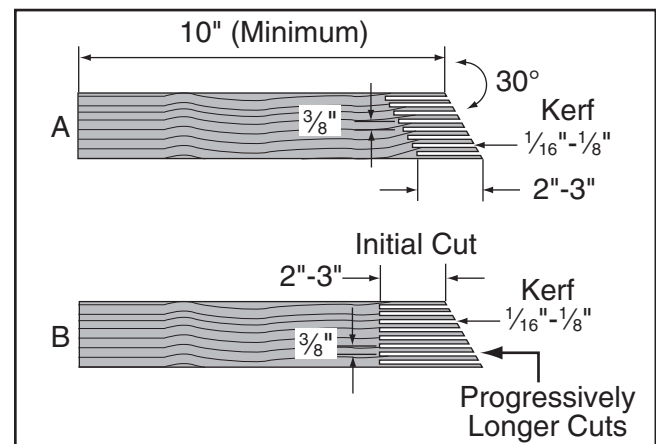

Figure 54. Patterns for featherboards (top view shown).
3. Make a series of end cuts with the grain $\frac{3}{8}$ "– $\frac{1}{4}$ " apart and 2"–3" long, as shown in **Figure 54 (A)**. Alternatively, start cuts at 2"–3" deep, then make them progressively deeper, as shown in **Figure 54 (B)**.